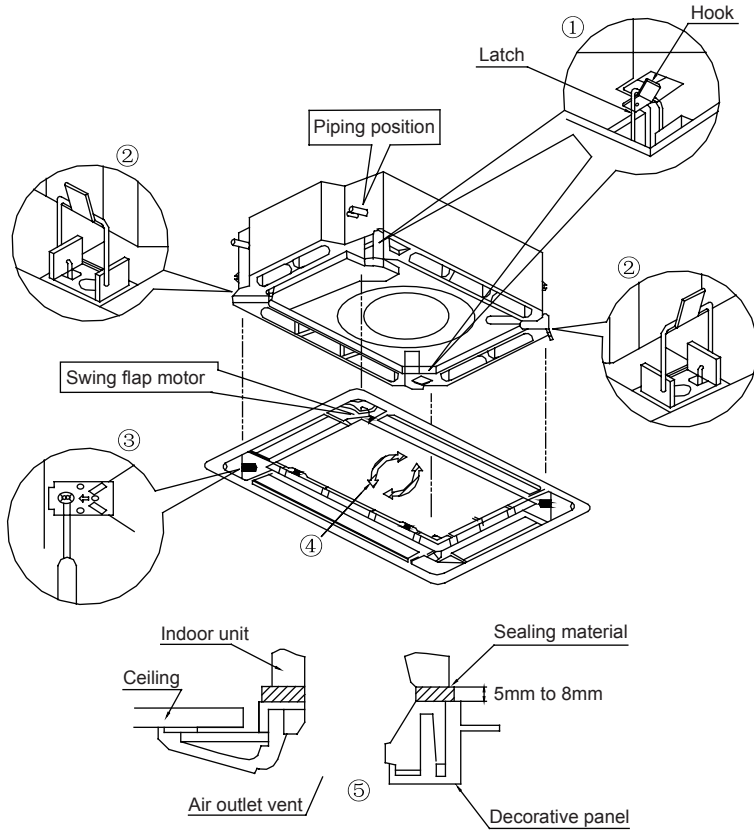

Fig.13
1. Install the grille onto the indoor unit body by matching the position of the swing flap motor of the panel to the piping position of the panel to the piping position of the cassette as shown in Fig.13.